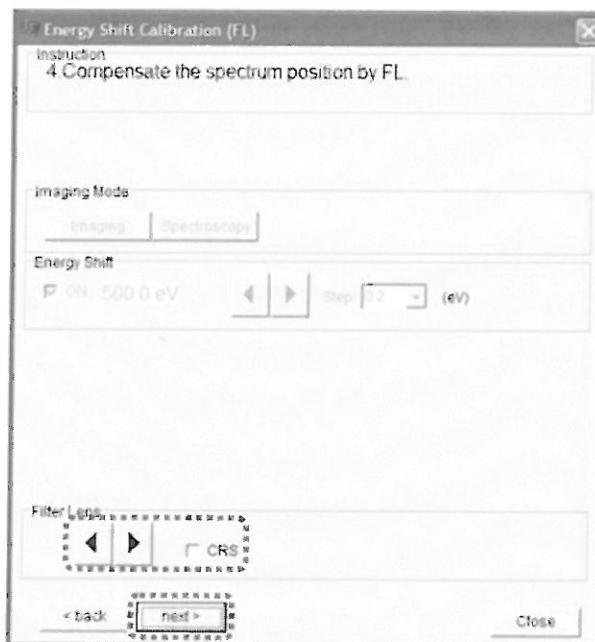

Fig. 5.47 Energy Shift Calibration (FL) - 4. Compensate the spectrum position by FL
- Follow "Instruction – 4. Compensate the spectrum position by FL" and correct the position of the spectrum with the Filter Lens (FL) (Fig. 5.47). Move the position using the "◀" "▶" buttons. If the CRS check box is selected, the variable amount will increase by 16 times. When the correction is complete, press **next** to proceed.